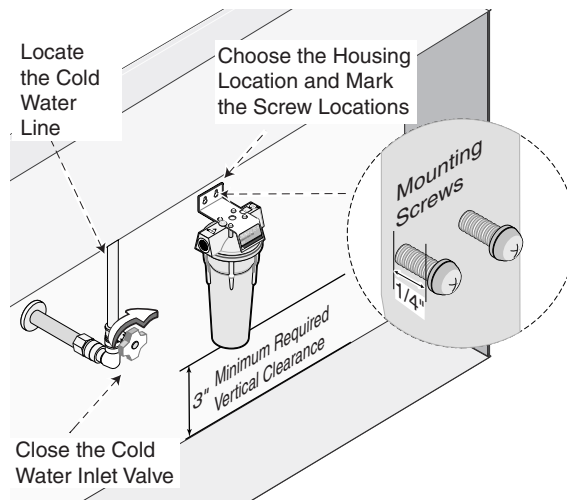

Figure 1
1. Choose a location and position the filter housing bracket on the wall of the cabinet nearest the cold water line beneath the sink. Leave a 3" minimum clearance between the bottom of the filter housing and the floor of the cabinet. See Figure 1.